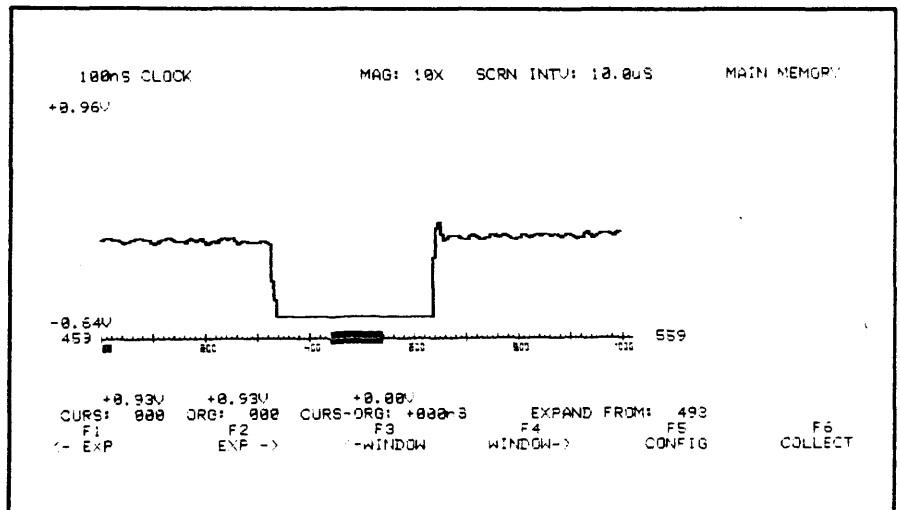

Figure 6-56. Examining the sync pulse at X10 magnification.
Press the X2 (2), X5 (3), X10 (4), X20 (5) keys to view the video signal at different magnification factors. Return to X1 magnification and press the **EXPAND** \rightarrow key until the EXPAND FROM indicator at the lower-right-corner of the CRT corresponds to the approximate position in memory of the sync pulse. (No \bar{E} symbol is used in the waveform display.) Then press the X10 (4) key. Next press the **WINDOW** \leftarrow or \rightarrow keys as required to center the sync pulse. See Figure 6-56.